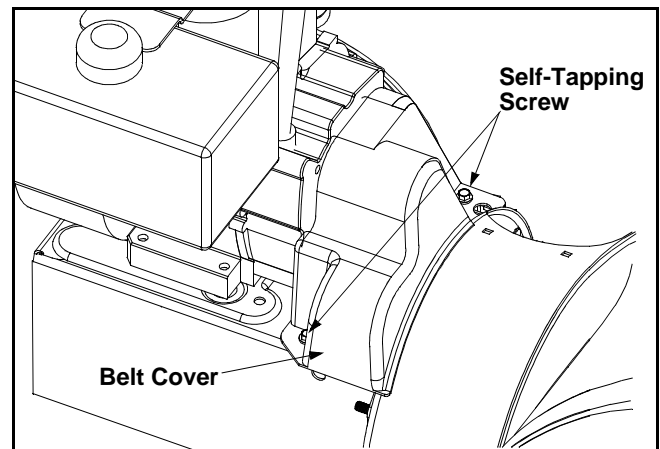

Figure 12
- Remove the plastic belt cover at the front of the engine by removing the two self-tapping screws. See Figure 12.